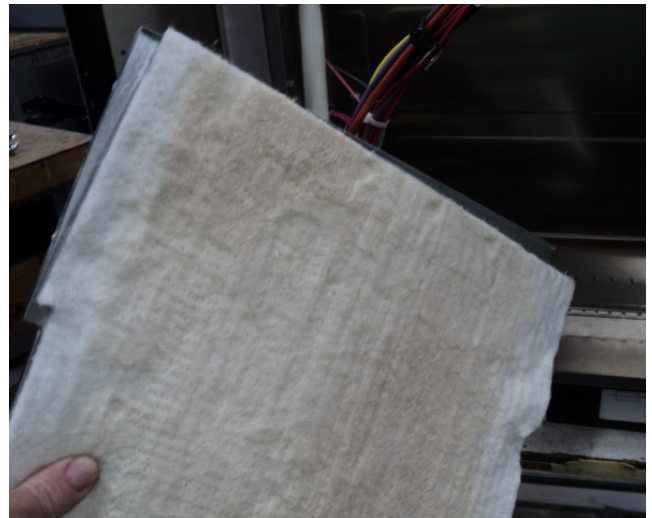

Figure 10
11. Remove insulation retainer and insulation and move out of way to access oven support nuts. (Figure 10).